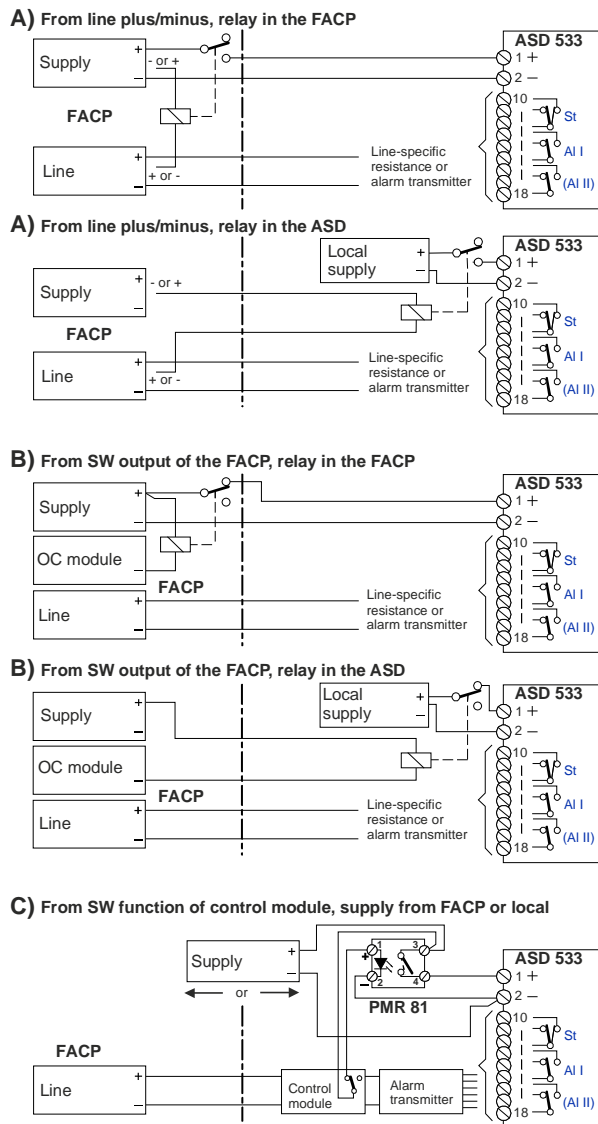

Fig. 34 Control via supply with relay
The auxiliary relay can be actuated in the following ways (see Fig. 34):
- The EMC protective elements at the input of the ASD electronics cause a brief current peak (5 A / 1 ms) when the supply voltage is applied. When using auxiliary relays with a maximum contact rating of 1 A, this may lead to the relay contact sticking. For this reason auxiliary relays with a contact rating of **more than 1 A** should be used **as a matter of principle** – e.g. semi-conductor relay PMR 81 (see Fig. 34 C).
- When using a PMR 81 semi-conductor relay, it may be necessary to invert the actuation signal (PMR only has a normally open (NO) contact function).